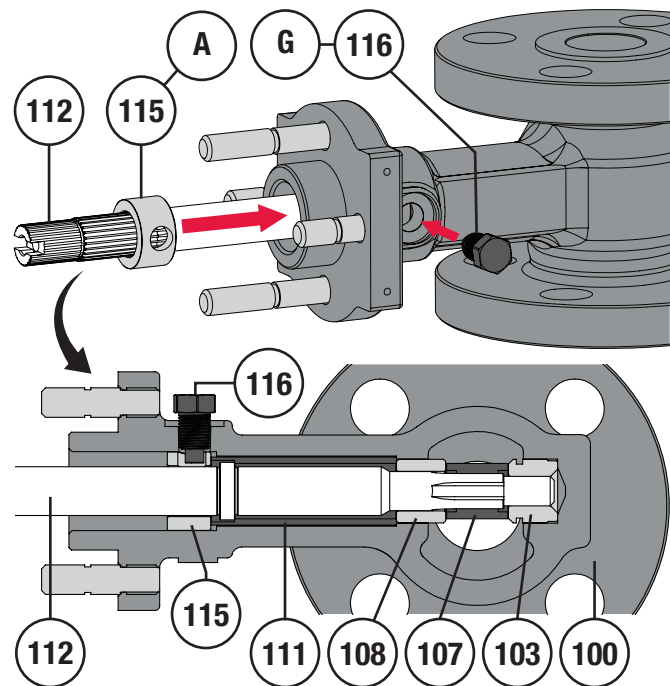

Figure 45 Packing Box Ring and Safety Pin Installation
- 7 Apply Permatex® Nickel Anti-Seize (Key A) to the outside surface of the packing box ring (Key 115). Install the packing box ring, insert the side with the larger bevel into the bonnet bore first. Try to align the safety pin hole in the bonnet with that of the packing box ring. If the packing box ring is installed backwards, the safety pin holes in the bonnet and ring will not align. Refer to Figure 45.